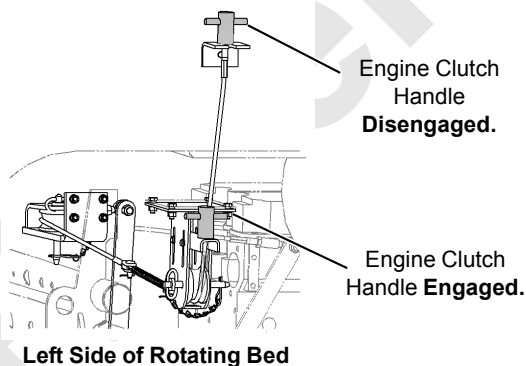

FIGURE 2-17
4. At engine, engage engine clutch (Figure 2-17).